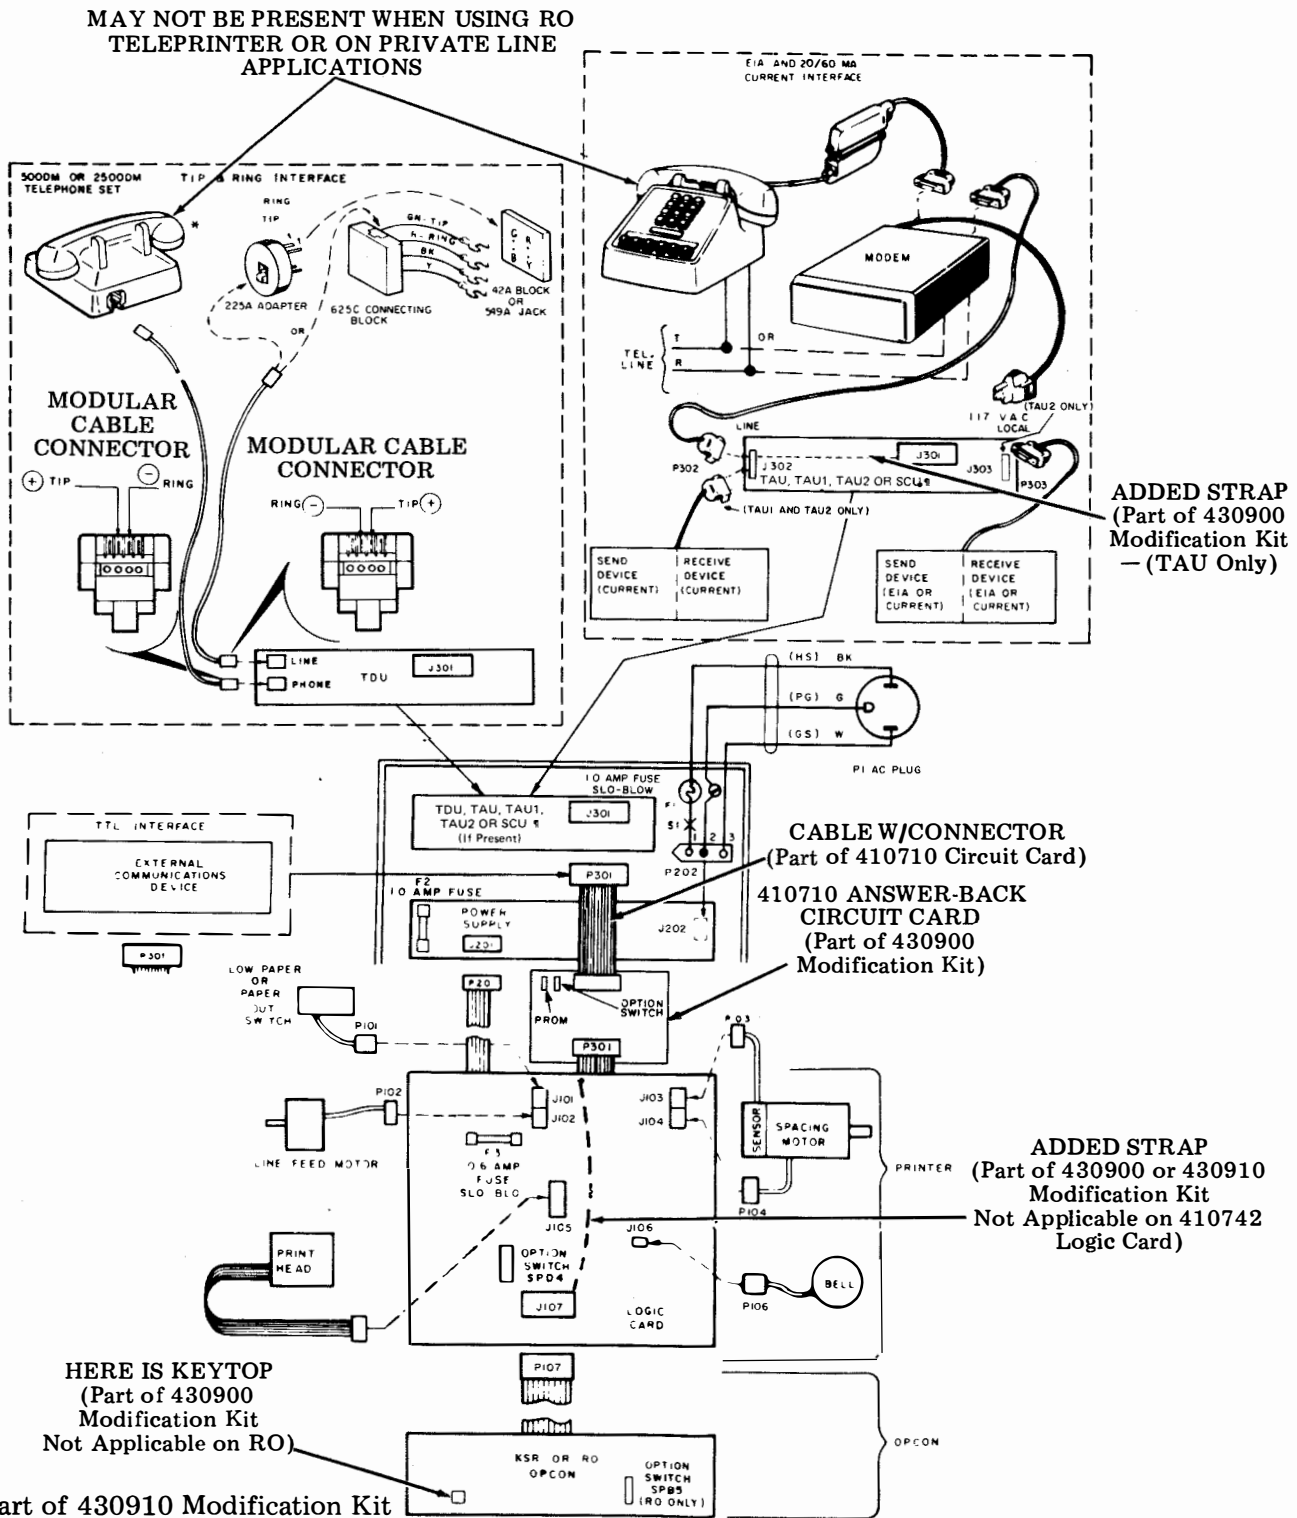

Fig. 6—Basic Teleprinter Block Diagram
2.12 The selective calling unit circuit card connects electrically to the TTL logic card cable P301 as shown on the teleprinter block diagram (Fig. 6).